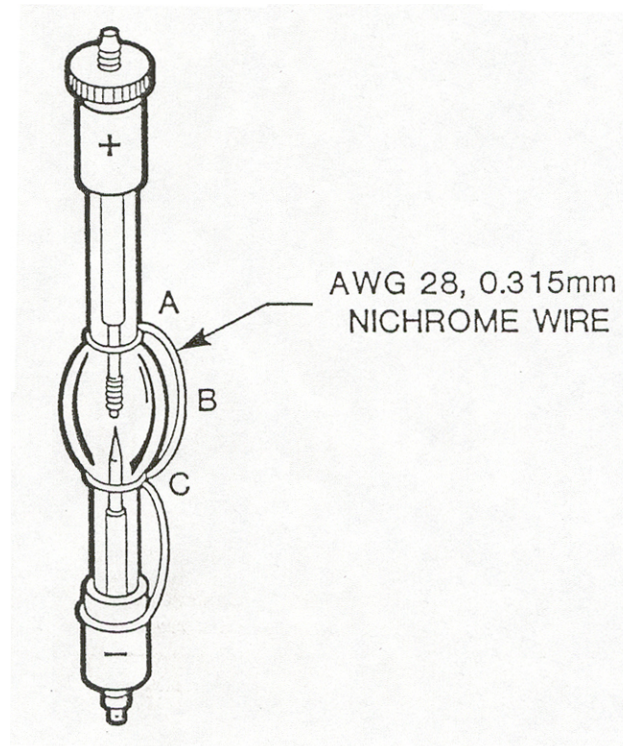

Figure 12
- Wearing cots or gloves loop the wire around the top of the lamp envelope, (A) in Fig. 12, twisting the end securely.
- Bring the wire down the side of the envelope, (B), nearest to the vacuum "fill/break off" mark. Keep the wire snug against the glass.
- Loop the wire around the snug of the envelope (C).